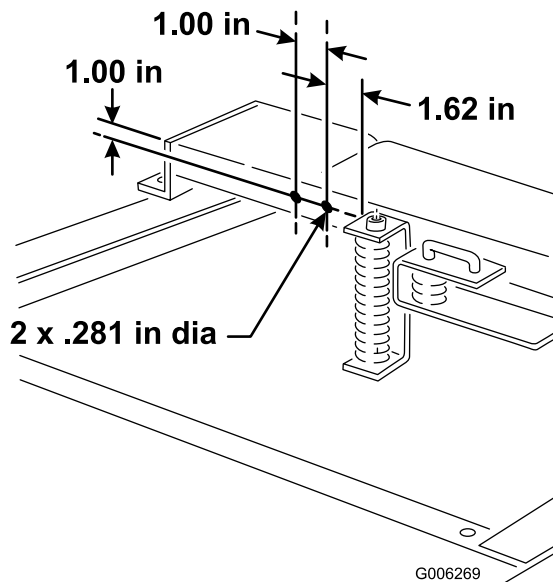

Figure 2
10. Using the dimensions shown in Figure 2, locate, mark and drill (2) .281 inch diameter holes in the front of the seat support.